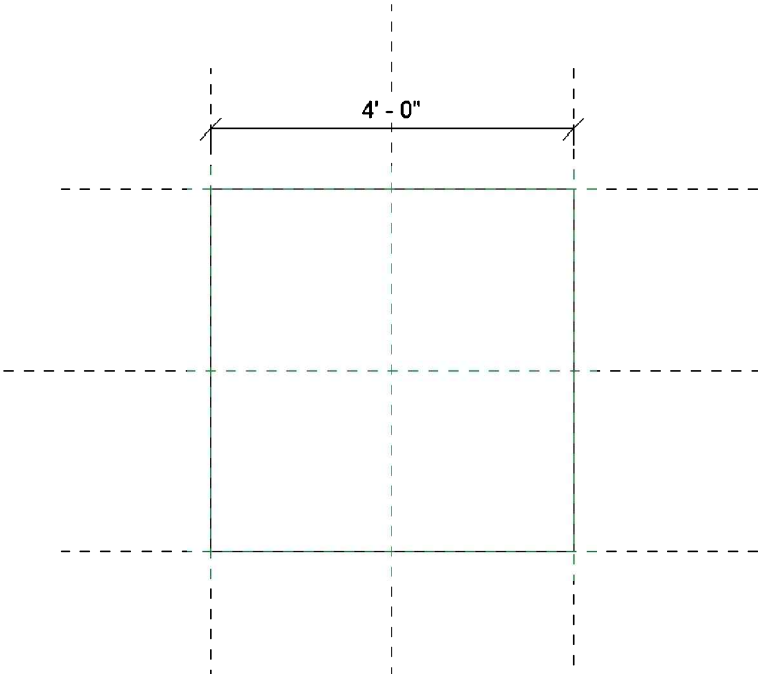

FIGURE 15-3.1 Dimension added to reference planes
3. Click the vertical left and right *Reference Planes*, and then click a third point to position the dimension line (Figure 15-3.1).